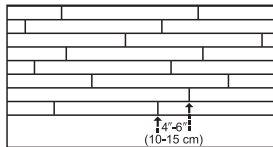

Figure 3
- Be attentive to staggering the ends of the boards at least 4'-6" (10-15 cm) when possible, in adjacent rows (Figure 3). This will help ensure a more favorable overall appearance of the floor.
- End-joints of adjacent rows should be staggered a minimum of 4'-6" (10-15 cm) when possible, to ensure a more favorable overall appearance (Figure 3).
- Check for a tight fit between all edges and ends of each plank. End-joints of adjacent rows should be staggered 4'-6" (10-15 cm) when possible, to ensure a more favorable overall appearance (Figure 3).